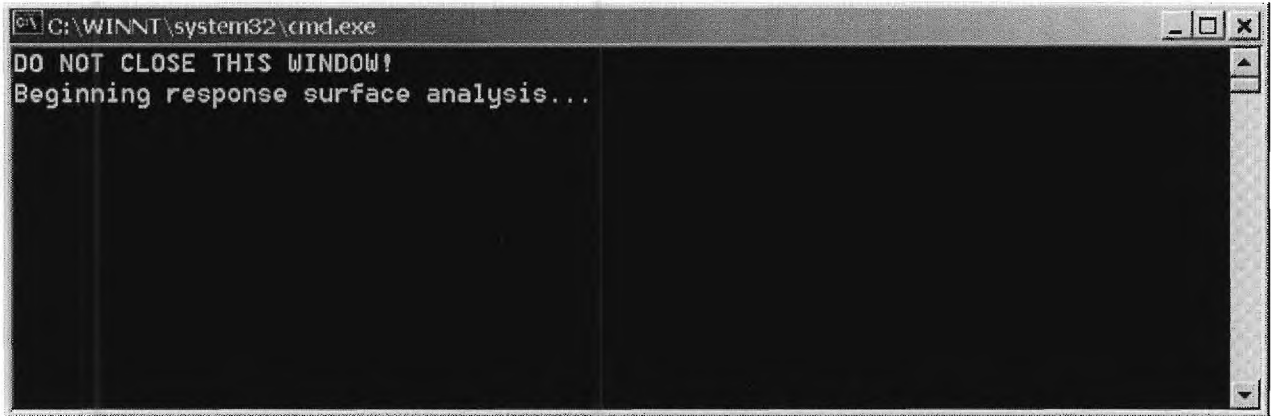

Figure 11: Java analysis engine MSDOS command window
- Figure 11 is a picture of the command window that pops up.